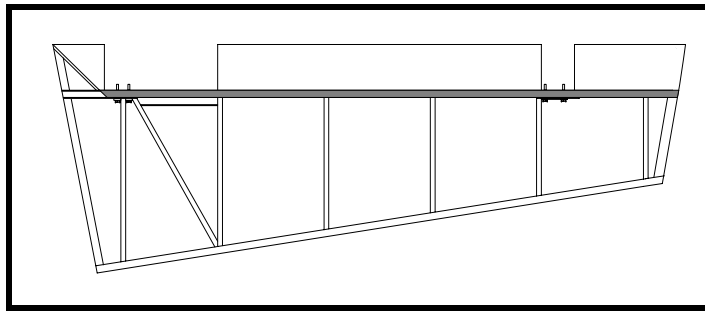

Figure 14
- ❑ Cut out the two hinge openings in the leading edge skin. See Figure 14.